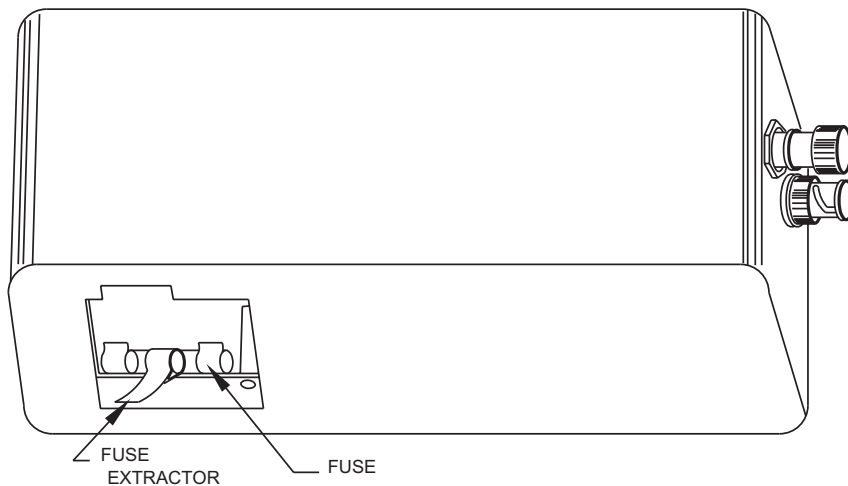

Figure 4-2. The Model 35050AT Dosimeter Fuse Replacement
3. Look inside the battery pack compartment and find the fuse extractor. It is a loop of plastic tubing held captive by the fuse body & fuse clips (see Figure 4-2). Grasping the fuse extractor tightly between your index finger and thumb and as close to the fuse as possible, push away from you until the fuse pops out. Pull the fuse out of the instrument.